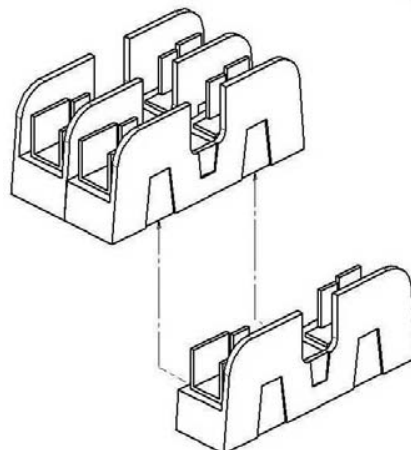

Figure 1
1. To attach secondary fuse kit PL-112603 to primary fuse kits PL-112700 thru PL-112705 snap the secondary single pole fuse block onto the unlabeled side of the primary double pole fuse block. (See Figure 1)